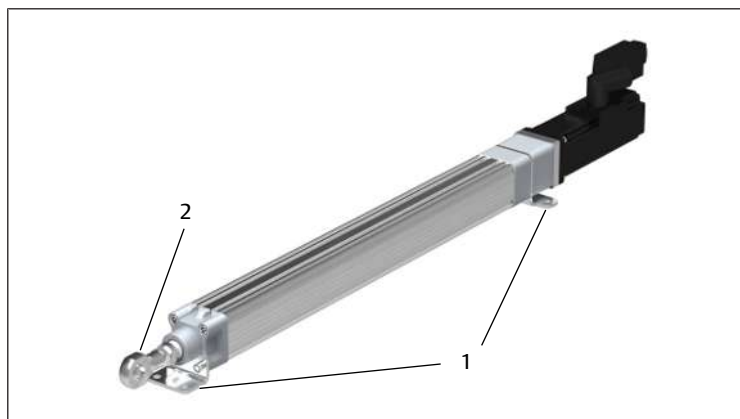

Fig. 9: Tightening the ball eye rod end and installation accessories
5. Tighten the ball eye rod end (2) and installation accessories (1) to the machine or system. See → Fig. 9. Bore hole dimensions for mounting screws. See online catalog.